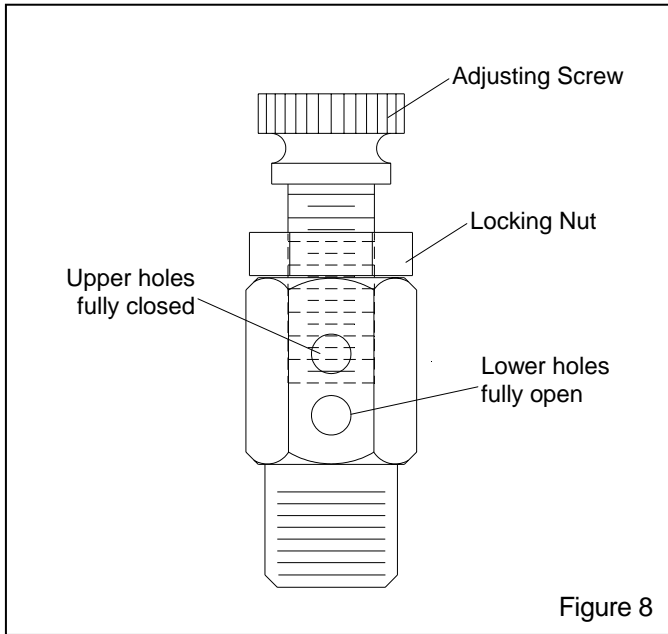

Figure 8
### 5.4 Metering Valve Adjustment, Figure 8
**5.4.2** If media does not flow smoothly, loosen the locking nut, and adjust the metering screw until the upper holes in the metering stem are closed-off, and the lower holes are fully open. See Figure 8. This adjustment is a starting point.